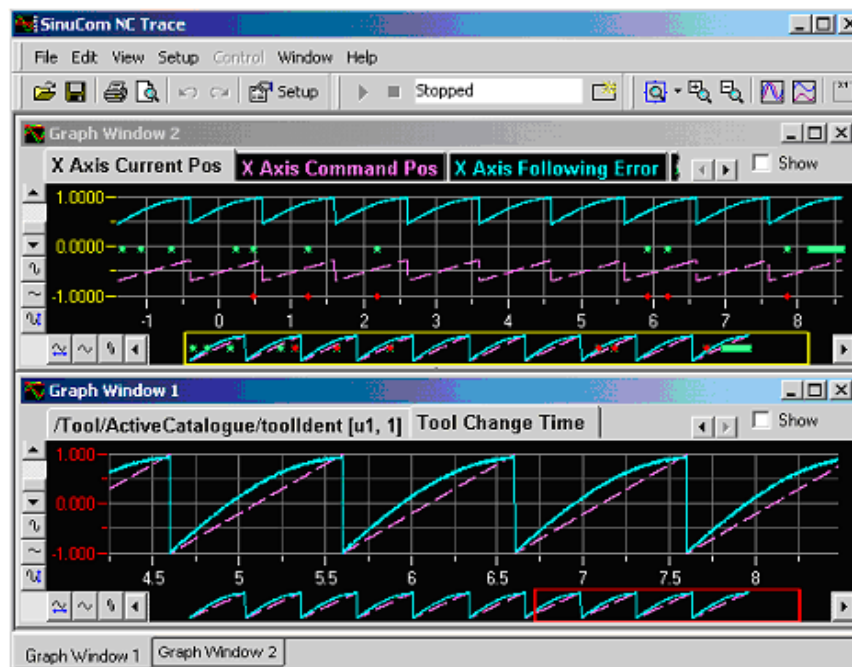

Bild 4-2 Multiple Graph Windows (tiled horizontally)
- **"No Waveforms Shown"** – All defined waveforms have had their "Show" checkbox unchecked, see Figure 4-2.
- The focus of the graph window determines which of the displayed waveforms is ready for manipulation. The focus can be changed from one waveform to another by clicking the associated colored tab, or by clicking the waveform itself. The colored tab can be configured to show either the waveform number, or the waveform description/name (as in "Graph Window 1" in Figure 4-2., above). The waveform that has focus is indicated in the colored tabs by a change in coloration..
- The horizontal scroll bar is shown as a miniature image of the entire waveform, (see Figure 4-2) This bar can be moved or dragged just like a standard Windows® scroll bar. Additionally, a rectangle is superimposed onto a portion of the bar which corresponds to the portion of the waveform that is being displayed. This rectangle can be stretched to change the horizontal scaling.
The Trace Main (Entry) Menu and its toolbars are shown in Figure 4-2 below. Items found in common MicroSoft Windows® toolbars are shown but are not described here. Annotated items are specific to Trace.